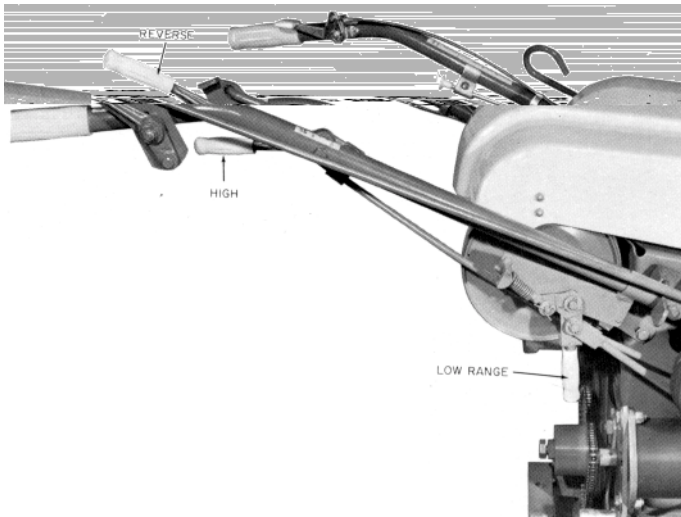
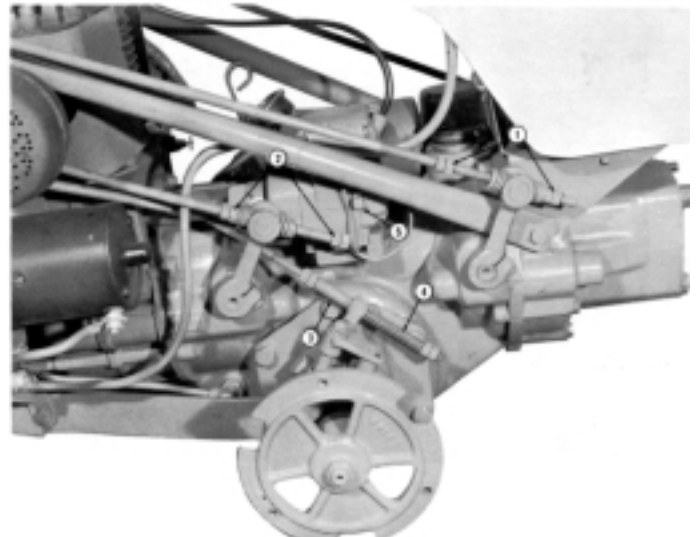

Figure 3
Figure 7
**Engaging wheels** - To put tractor in motion, first move the high-low control lever to either the high or low position (figure 3). Then move the forward-reverse control lever into forward or reverse. Depress the throttle to the desired speed.
- ....Ignition stop button is shorted out. To test, remove the ground wire from the magneto stop button and attempt to start the engine. See service manual or call your dealer. (See 5, figure 7.)
**Clutch Rods** - To adjust clutches, tighten the locknuts, 1 and 2 in Figure 7, until the clutch rod springs are compressed fully as each lever goes over center in the fully engaged position, either high or low gear or forward or reverse.
**Range Selection Linkage** -The toggle spring (locate y the range lever occasionally may require adjustment by tightening the hex nuts on the toggle rod until the spring is compressed to 15/16 inch (23.81 mm). Figure 3 and 4. To adjust springs, (3 and 4 in Figure 7), have the range selection lever engaged fully in high or low range, move the hex nuts (1 and 2 in Figure 7) on the spring rod until each spring is compressed 2 1/2 inches (63.5 mm).